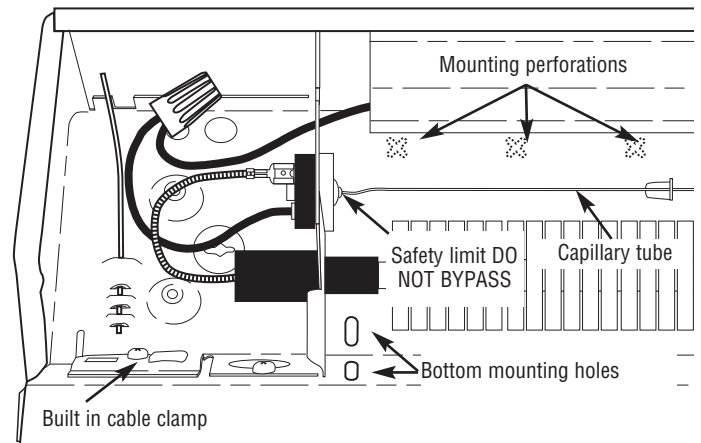

Figure 4: Left Side Wiring Compartment Shown
10. When mounting heater, if bottom mounting holes are used (see Figure 4), make sure screws do not damage supply wiring in the area behind heater.
11. Do not remove or bypass the safety limit control as this could allow heater to become a fire hazard – see Figure 4.
- Loosen screw in built-in cable clamp (Figure 4) or remove desired knockout from heater wiring compartment. Install power cable into wiring compartment allowing at least 6 in (153mm) of cable for connection to heater. To install two power cables using the built-in cable clamp, bend tab covering second hole up and back to rear wall of wiring compartment. If built-in cable clamp is not used, install approved cable restraint (not included) in desired knockout.
NOTE: cross stamped mounting perforations are provided in back of heater enclosure above heating element at mounting screw locations, see Figure 4.
- Position heater at desired location and attach to wall using wood screws or appropriate hardware. Locate studs and drive screws into studs where possible. For heaters up to 6 feet (1.8 m) in length, one screw at each end is adequate. For longer units, an additional screw in center is required. Tighten screws and then loosen screws at least ¼ turn to allow heater to expand and contract during use. If unit is mounted above floor, two additional mounting holes are provided at each end below the heating element (see Figure 4). Install an additional screw at each end for stability making sure to loosen each screw at least ¼ turn.
- A safety limit control is provided to turn off the heater automatically if it is blocked or otherwise overheats due to an abnormal condition-see Figures 4 and 5. **DO NOT** bypass or remove this safety device from the electrical circuit-see Warning 11 on page 2. During normal use, this safety control should not operate. If you find that this control is operating, make sure the heater is not being blocked. If it continues to cycle the heater off, disconnect power to heater and have it checked and repaired by a qualified electrician.